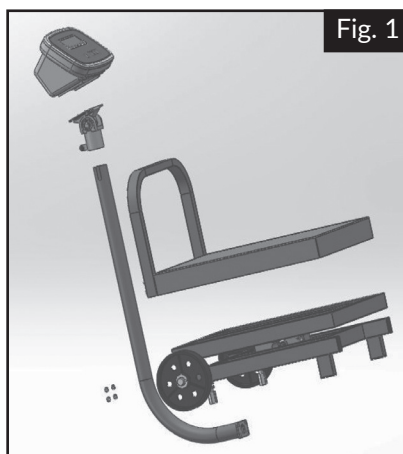

Fig. 1
1. Take all the contents out of the box. Thread the load cell cable on platform base through the pole. (Fig. 1)